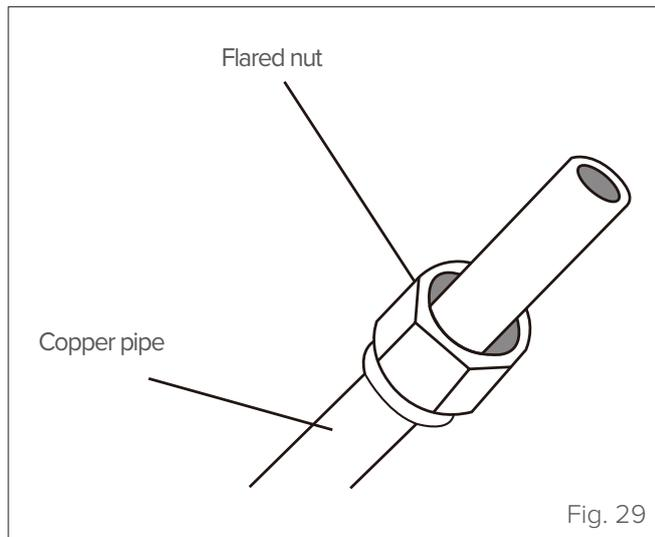

Fig. 29
- 3 Place a countersunk nut at each end of the pipe. Make sure that the nuts are facing in the correct direction, because after countersinking it will no longer be possible to apply them or change their direction (see "Fig. 29").